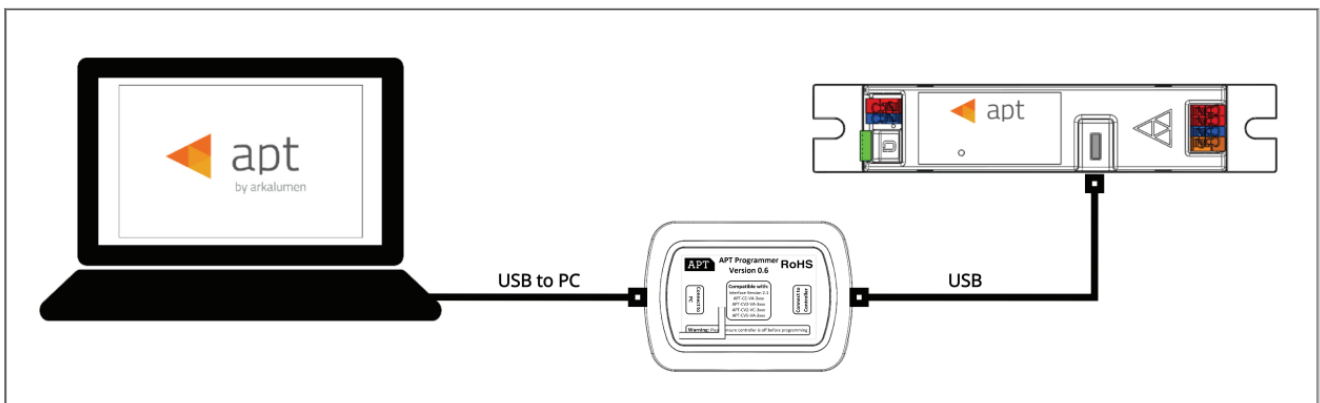

Figure 1: Wiring Diagram
1. Connect the APT Programmer to the PC and controller as shown in Figure 1.